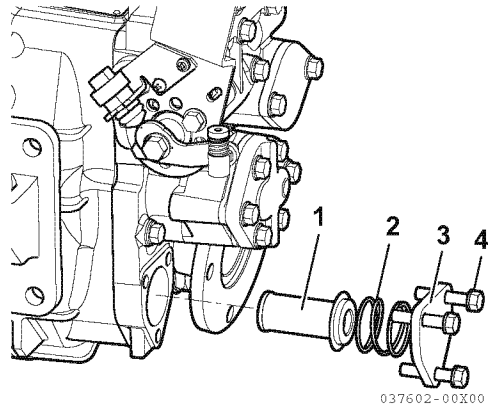

Figure 2
4. Remove three M8 × 40 bolts (4, **Figure 2**) and washers.
5. Remove the cover (3, **Figure 2**), spring (2, **Figure 2**) and oil strainer (1, **Figure 2**).
*Note: The oil strainer (1, **Figure 2**) must be washed with clean oil whenever the oil is changed.*